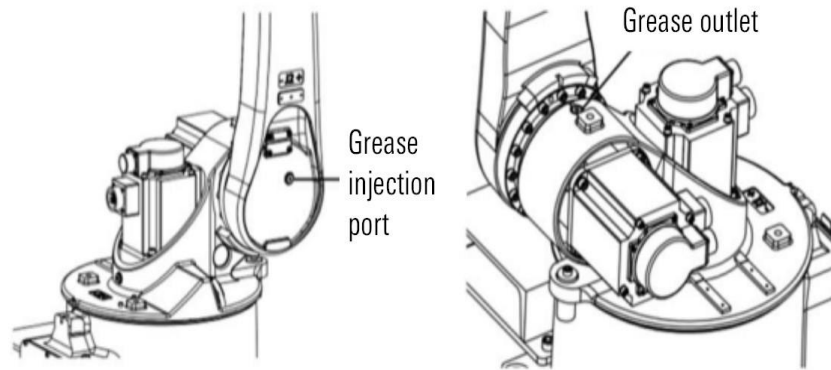

Figure 12-8 Diagram of replacing J5 axis synchronous belt
Step7. Loosen the mounting screws of the J5 motor assembly, as shown in Figure 12-8, move the motor pulley assembly, remove the old synchronous belt, and install the new synchronous belt.